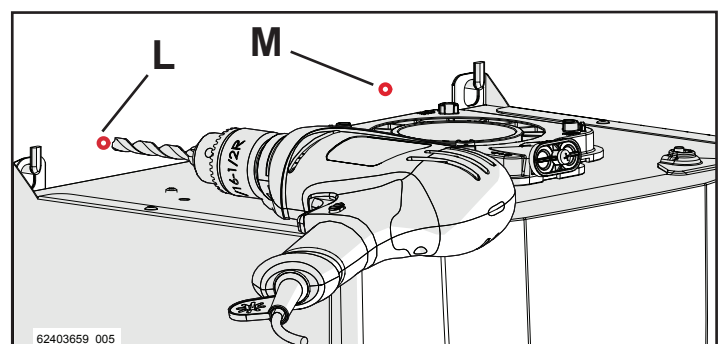

Figure 5-35
- 3 - Remove the template and fixing bracket, and drill the holes marked out previously, as shown in figures 5-35 and 5-36;